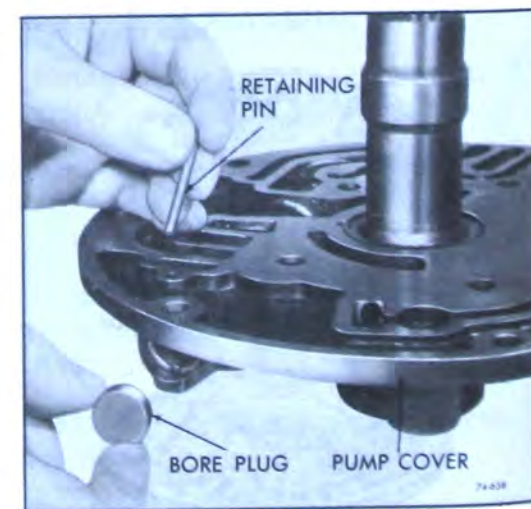

Figure 74-638
6. Install the pressure regulator valve bore plug and retaining pin into opposite end of bore. See Figure 74-638.